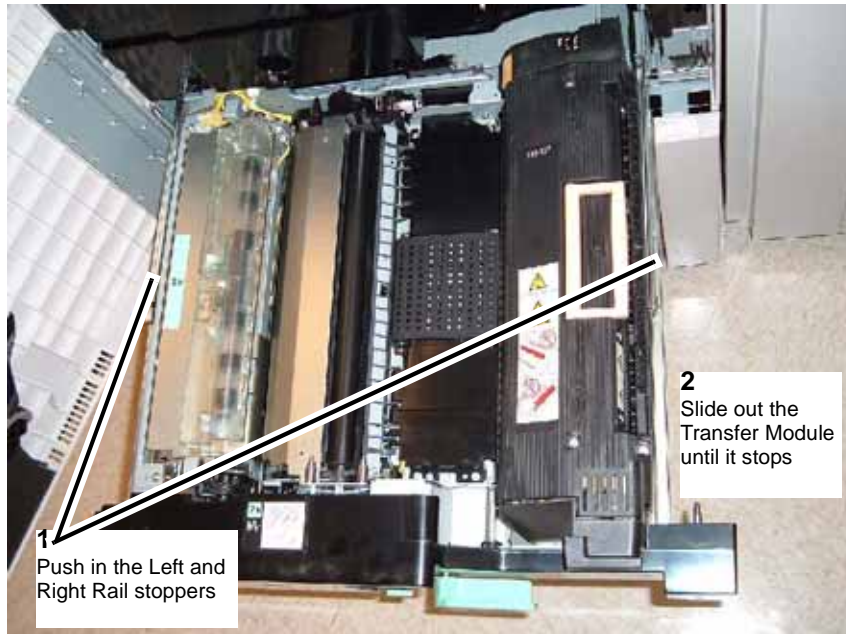

Figure 2 Sliding out Transfer Module completely
3. Push in Rail stops and slide out Transfer Module completely (Figure 2).